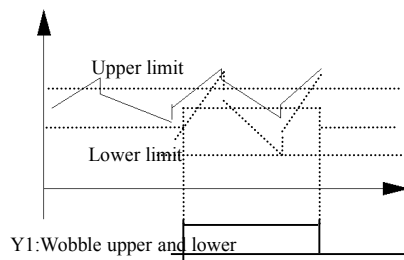

Fig.7-22 Wobble amplitude limit
28. Wobble upper and lower limit. If the frequency fluctuation range calculated by center frequency exceeds the upper limit F01.11 or belows lower limit F01.12 after selecting the wobble function, it will output indication signal, as shown in Figure 7-22.